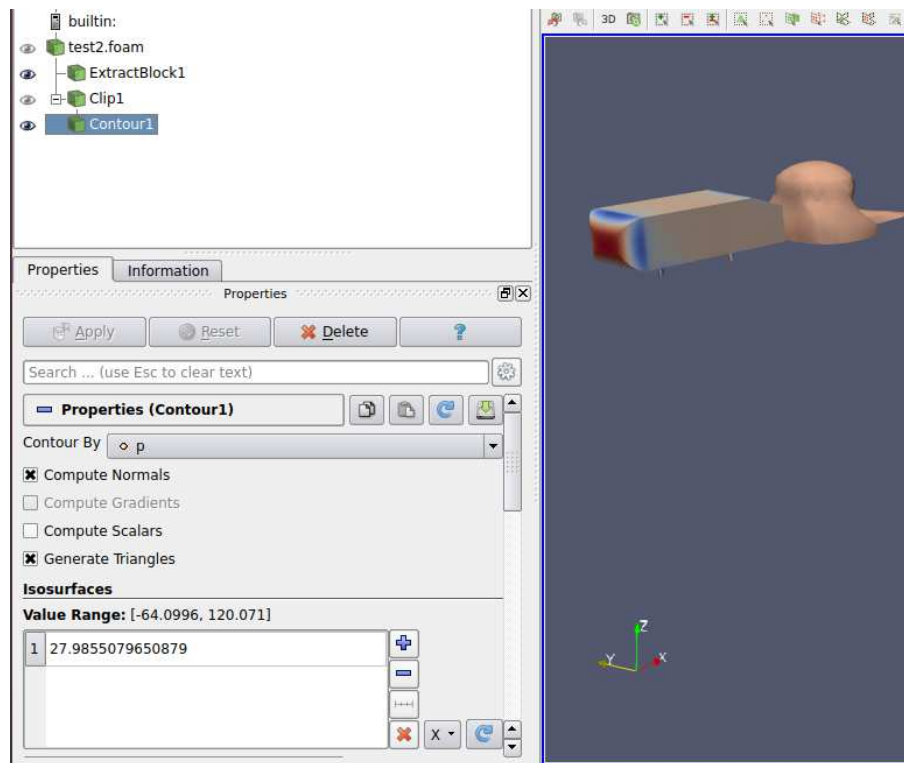

Figure 2.2: Insert a contour plot.
- 7) Go to 'Filters>Alphabetical>Countour' filter with default values and click apply (figure 2.2). This should output a countour plot similar to figure 2.2 below.